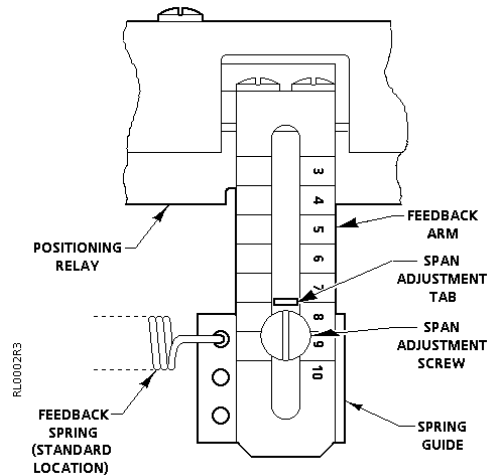

Figure 6. Span Adjustment.
1. Check that the feedback spring is attached to the spring guide in the hole across from the number 10 in the feedback arm. This is identified as the standard location in Figure 6.
1. Make sure the spring guide is securely fastened at the 10 position on the spring arm. See Figure 6.